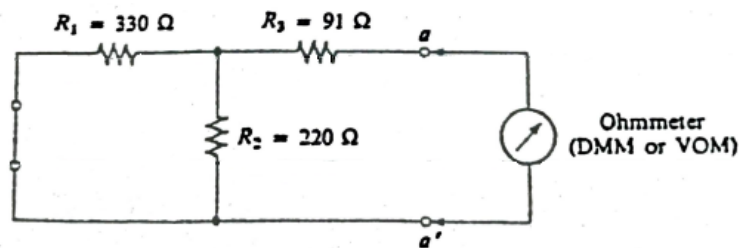

FIG 4.3
- (e) Determine R_{Th} by constructing the network of Fig 4.3 and measuring the resistance between the DMM terminals.